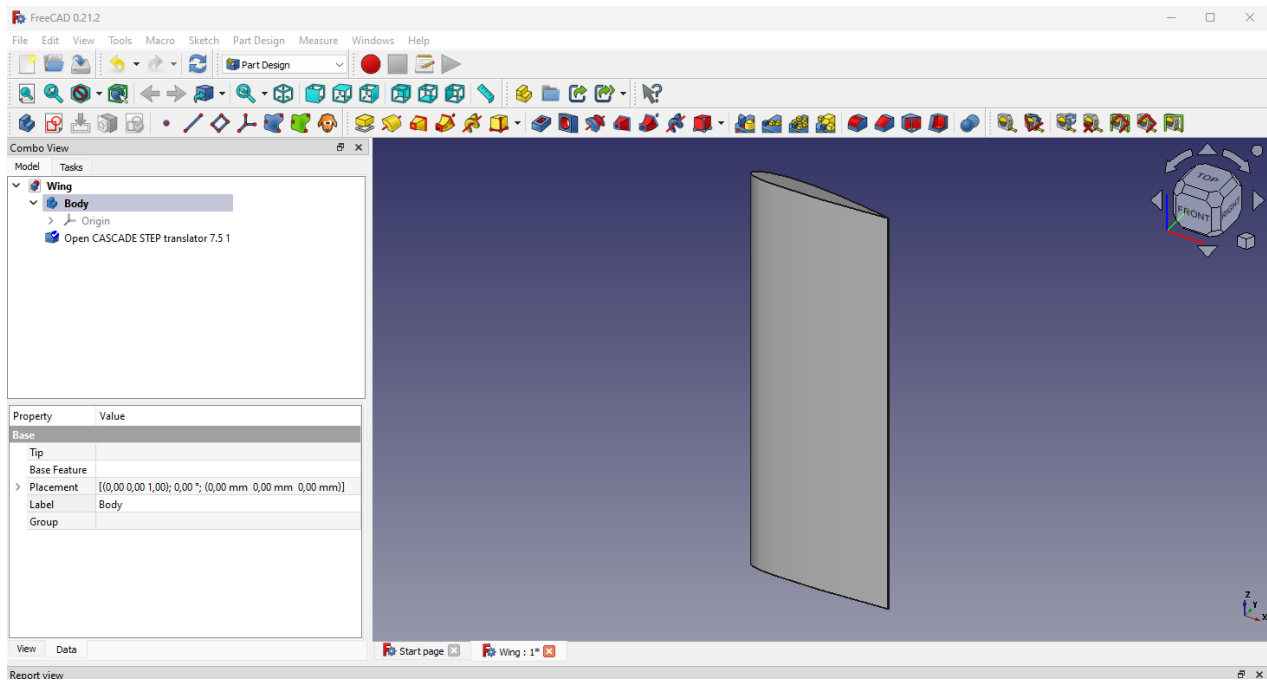

Figure 6: FreeCAD: Import geometry
- In newer FreeCAD versions, a pop-up dialog will be shown. Click **OK** with the defaults (Figure 6).